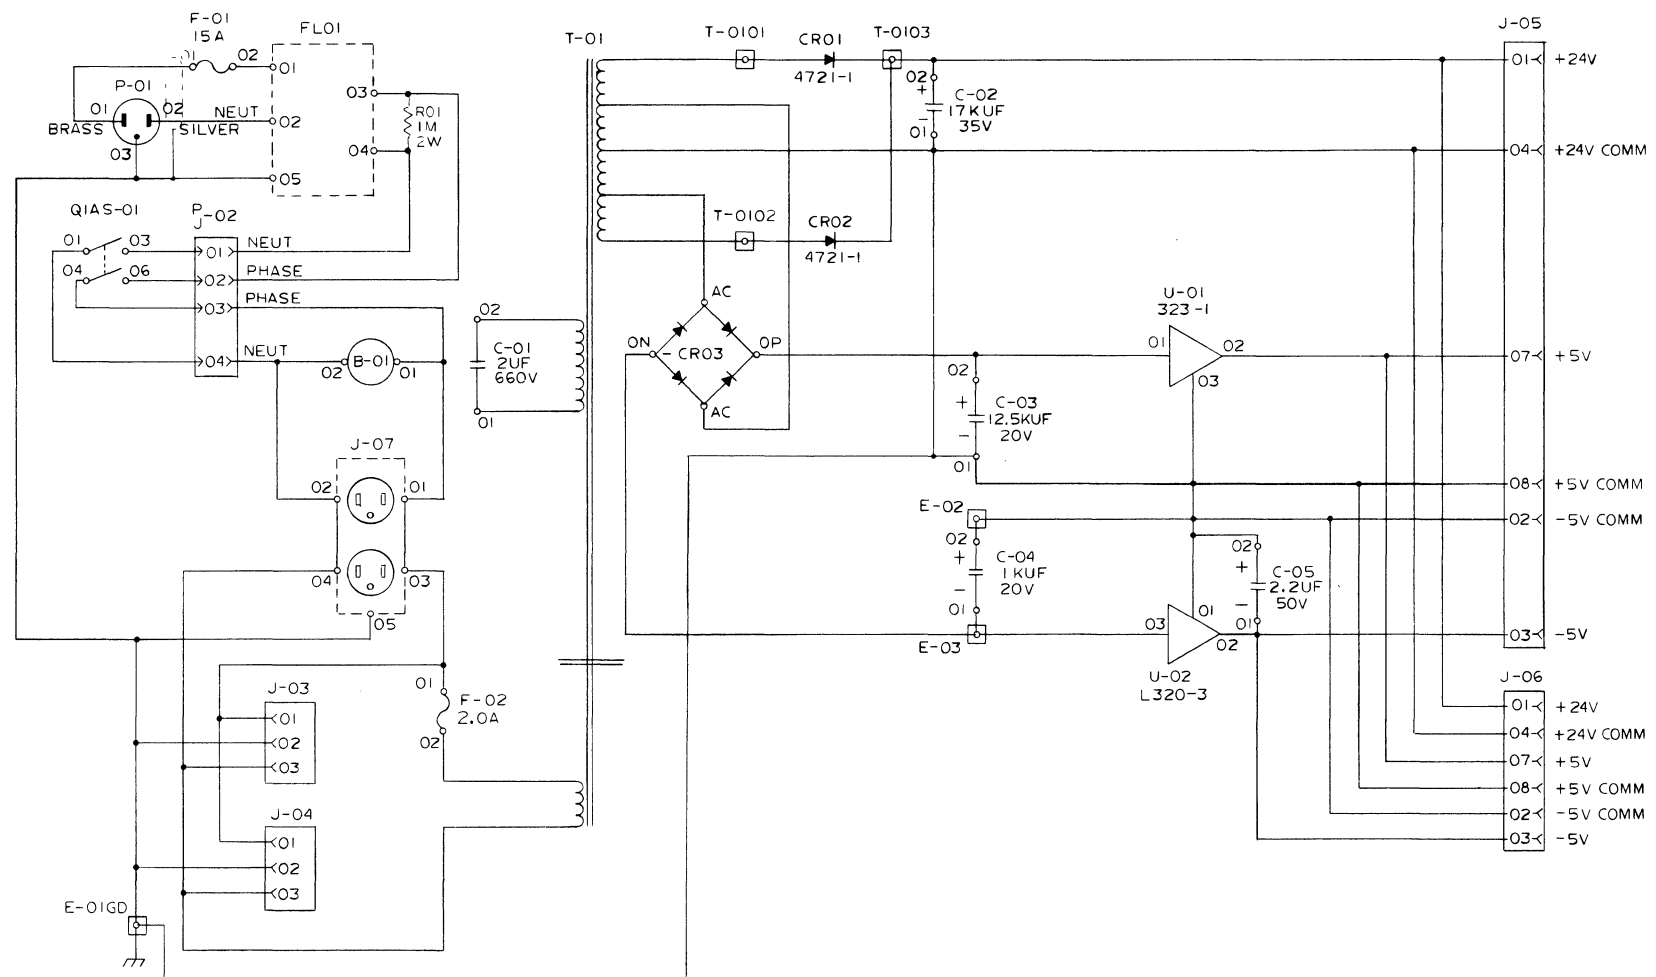

Figure 4-7 Diskette Power Supply Schematic, 120V, 60 Hz
- Figure 4-7 Diskette Power Supply Schematic, 120V, 60 Hz.